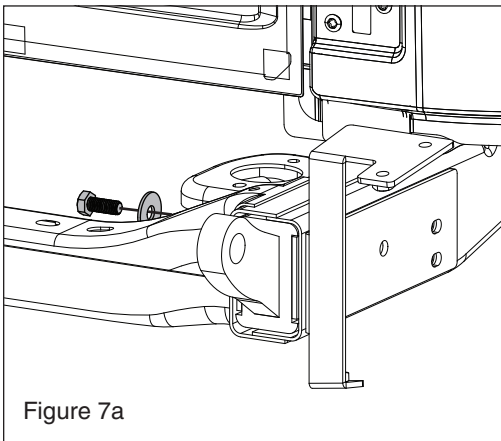

Figure 7a
*Do not tighten at this time. (see FIGS 7a and 7b)*